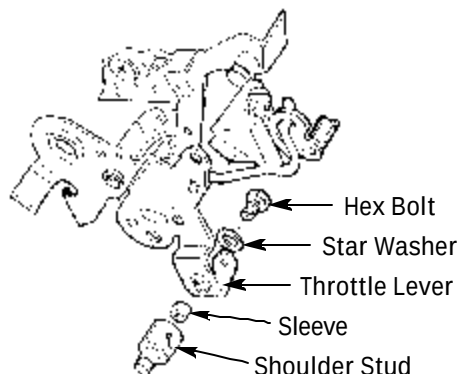

Figure 2 - Edelbrock Throttle Lever
2. Vehicles with automatic transmissions will require using a kickdown stud on the throttle lever to operate the transmission kickdown rod. The supplied kickdown stud fits directly to the lower hole on the throttle lever of Performer and Thunder series carburetors (See Fig. 2).
- 5) Install the intake manifold and hold-down bolts. Torque all of the manifold bolts in two steps by the sequence shown in *Figure 2* to 25 ft/lbs. See *Figure 6* for firing order.